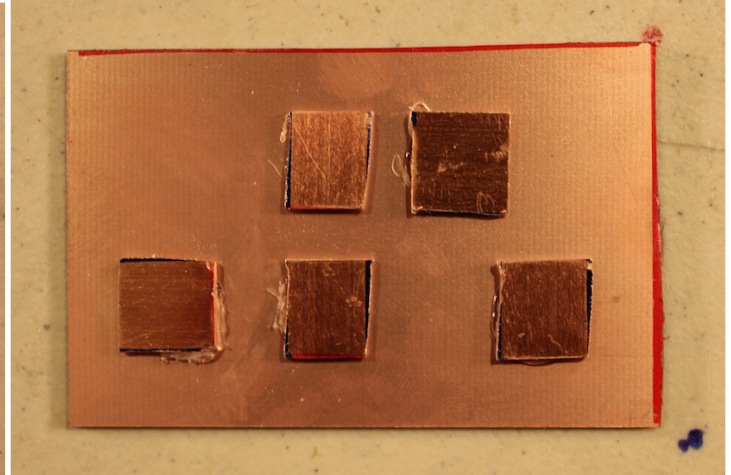

Figure 2
-Arrange the 5 smaller  $\frac{1}{2}$ " squares on the larger copper plate as shown in figure 2 and glue them down using hot glue or super glue. (Make sure the copper side is facing up)